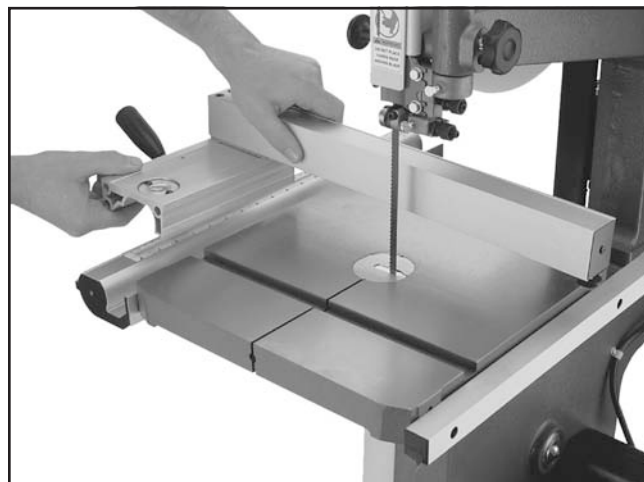

Figure 20. Placing the fence onto the rails.
17. Thread (1) M8-1.25 hex nut onto the fence lock handle, then thread the handle into the fence and secure it in place by tightening the hex nut against the fence.
18. Move the fence lock handle up, position the fence face between the column and the blade, as shown in **Figure 20**, then place it onto the front fence rail.